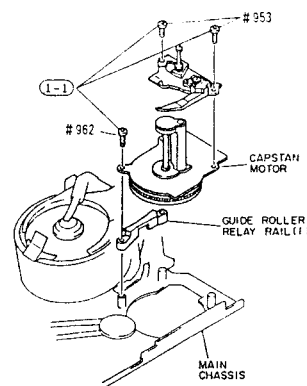

Fig. 2-64
- 1) Remove three (3) screws holding the capstan motor. (See Fig. 2-64)
- 3) Pull out guide roller relay rail (1) from the main chassis. (See Fig. 2-64)